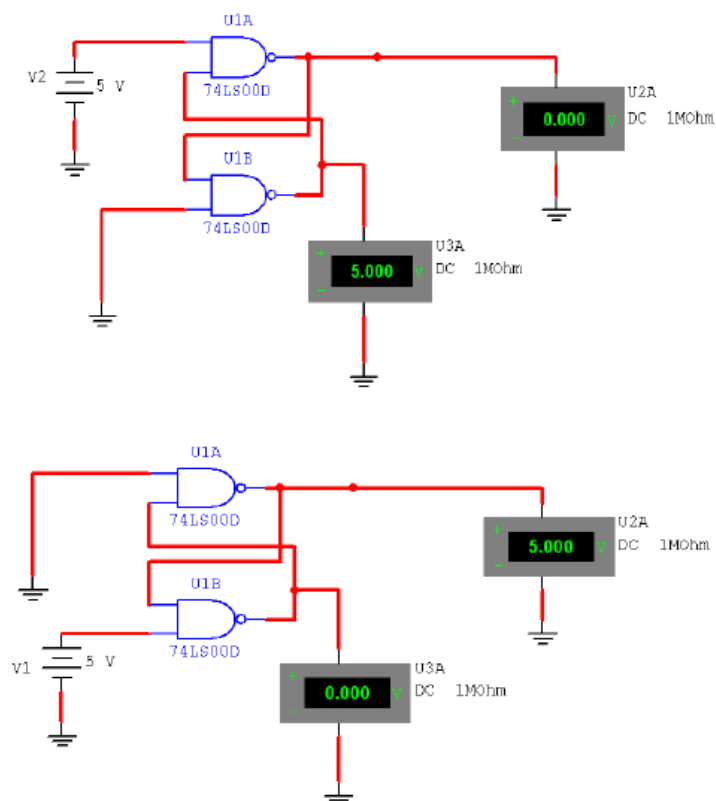

Fig. 18 R-S flip flop
- Construct the circuit shown in Fig.18.